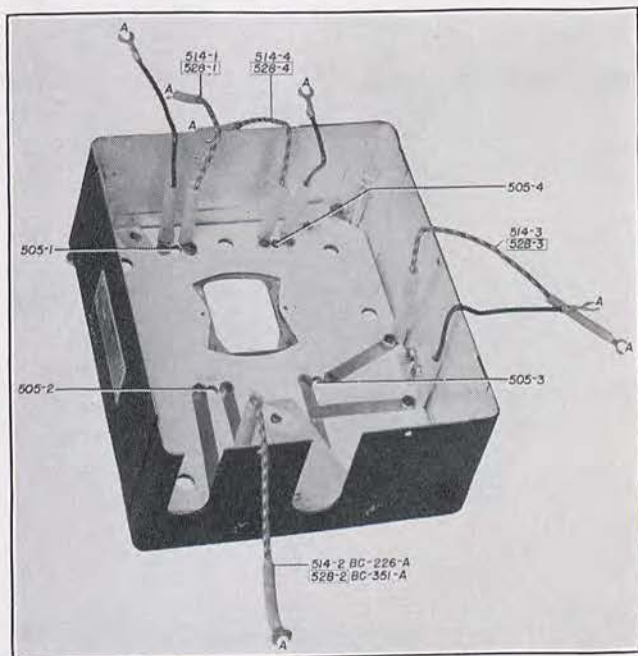

FIGURE 45—RADIO CONTROL BOX BC-226-A OR BC-351-A, INSIDE VIEW OF COVER
- 2—Disconnect all panel light resistors and ground leads marked A in Figure 45.